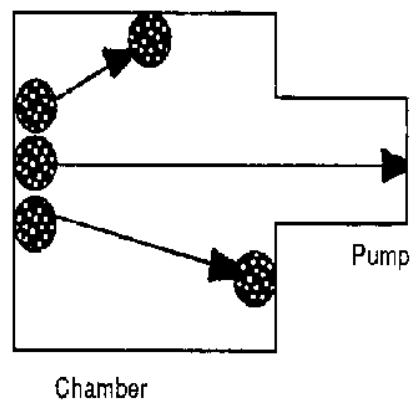

Figure 2. Track of Desorbing Water Molecules
1. This can be viewed as almost a physical erosion process. Once loose in the chamber, the water molecules might impact onto another sorption site and stick again or be pumped away by the roughing pump. At viscous flow pressures where the residual gases behave like fluids, the desorbed water molecule is most likely to be entrained in the flow of gases being pumped much like a windborne particle, as shown in Figure 2. The addition of the UVB-100's UV energy will then add to the already occurring desorption with the additional benefit of efficient removal from the chamber.